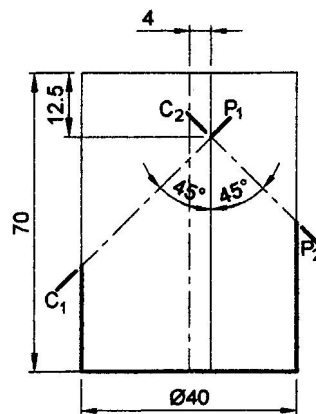

Fig. No. 3
- (b) Fig. No. 3 shows the elevation of a cylinder kept on H.P. on its base. Cylinder is cut by two cutting planes $C_1 - P_1$ and $C_2 - P_2$. Draw the development of lateral surface of cylinder.